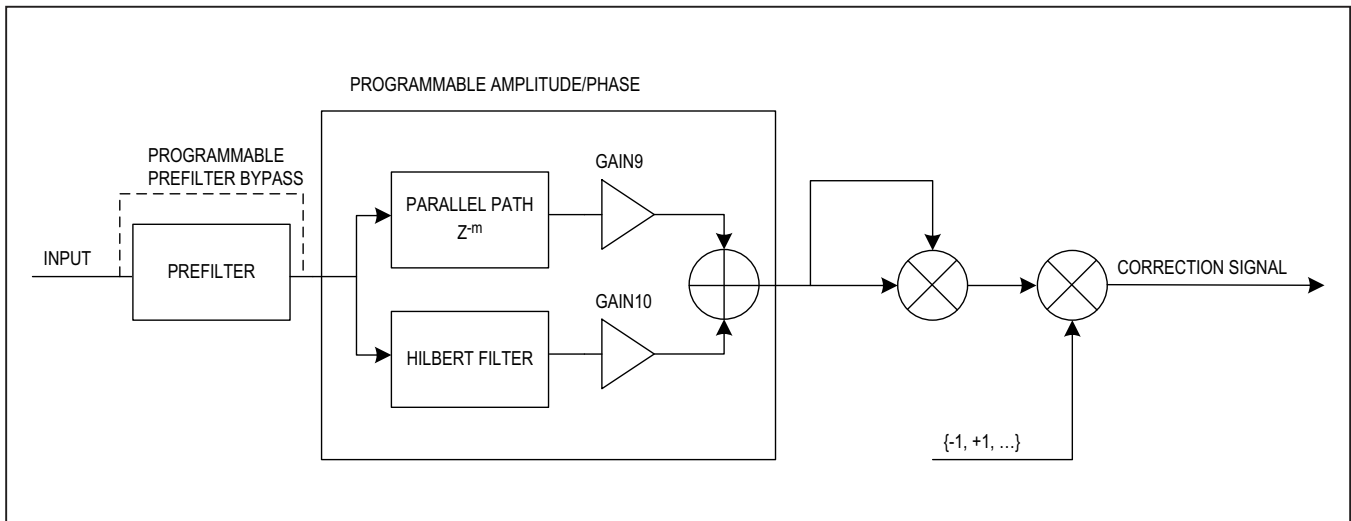

Figure 24.  $f_{DAC}/2 - 2f_{OUT}$  DAC DPD
- $f_{DAC/2} - 2f_{OUT}$  DPD: This block allows for the correction of  $f_{DAC/2} - 2f_{OUT}$  spur. The block diagram of this section is shown in Figure 24.
The  $f_{DAC}/2 - 2f_{OUT}$  DPD block (Figure 24) includes a bypassable pre-filter with a nonlinear phase response that approximates the characteristics of the MAX5861's RF